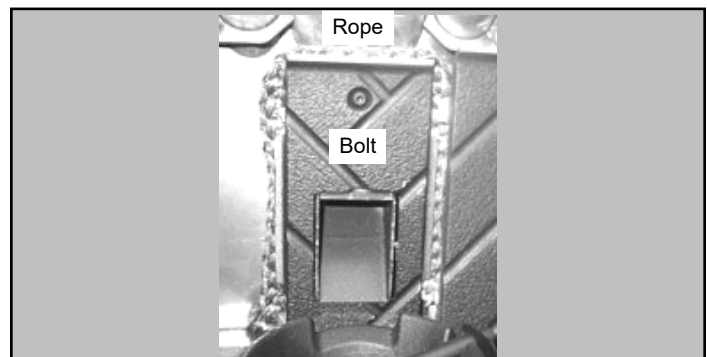

Figure 23.6
4. Add new center brick and taking care not to cross thread the bolt; reinstall brick (**Figure 23.6**).